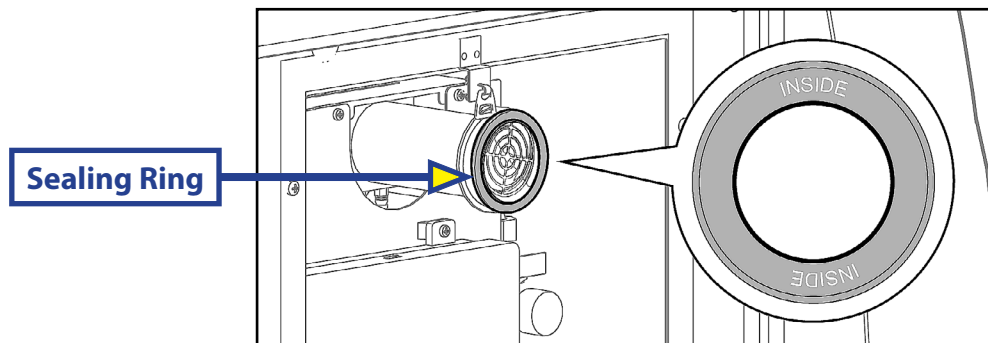

Fig. 6
12. A sealing ring is assembled on the chimney (Fig.6). Inspect to make sure the seal does not have any cracks or breaks, and that it is in good condition. Contact Furrion for replacement.